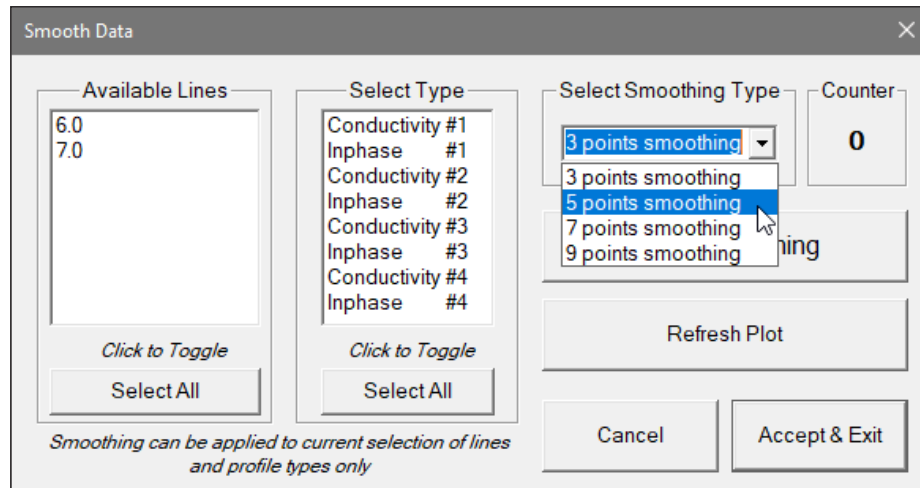

Figure 4.8 Smoothing Data - Available Smooth procedures
- Select the desired routine from the **Select Smooth Routine** pull-down menu (Figure 4.8).